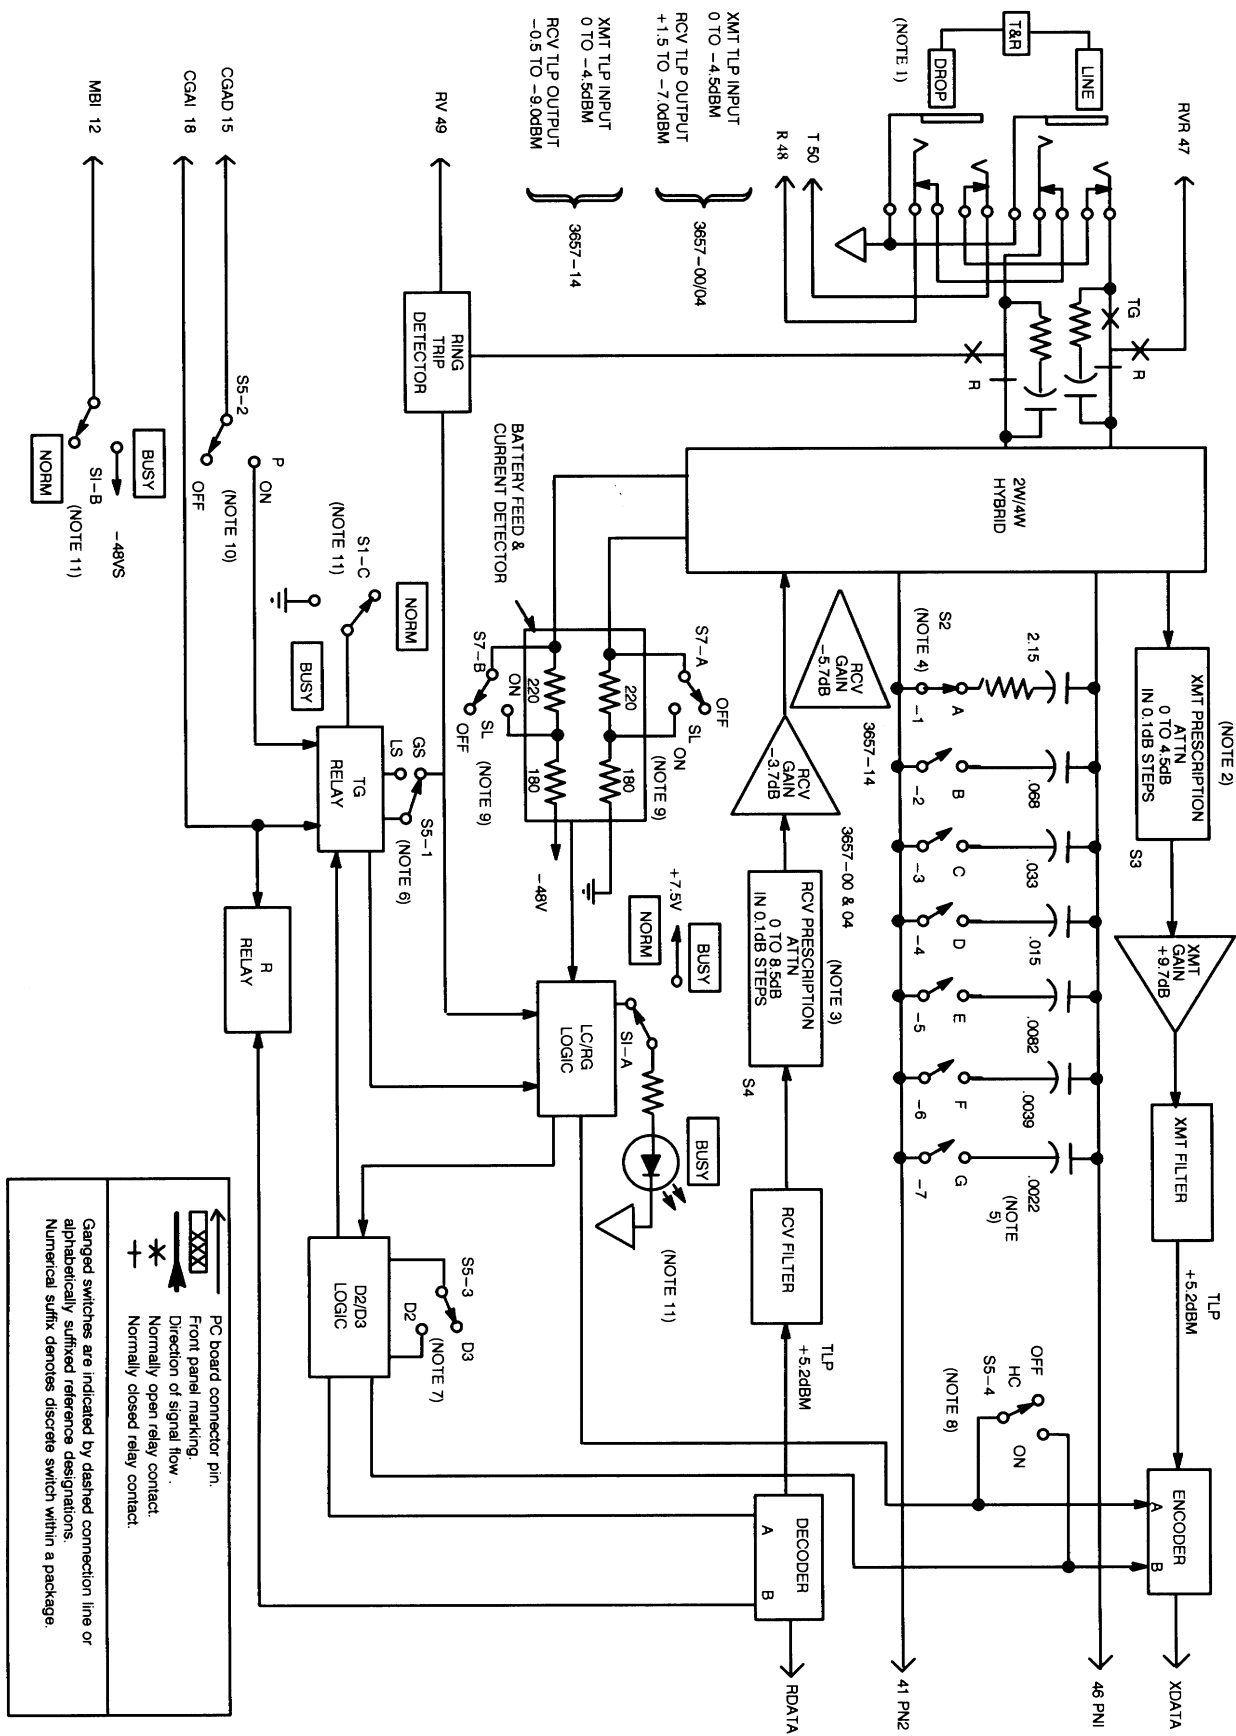
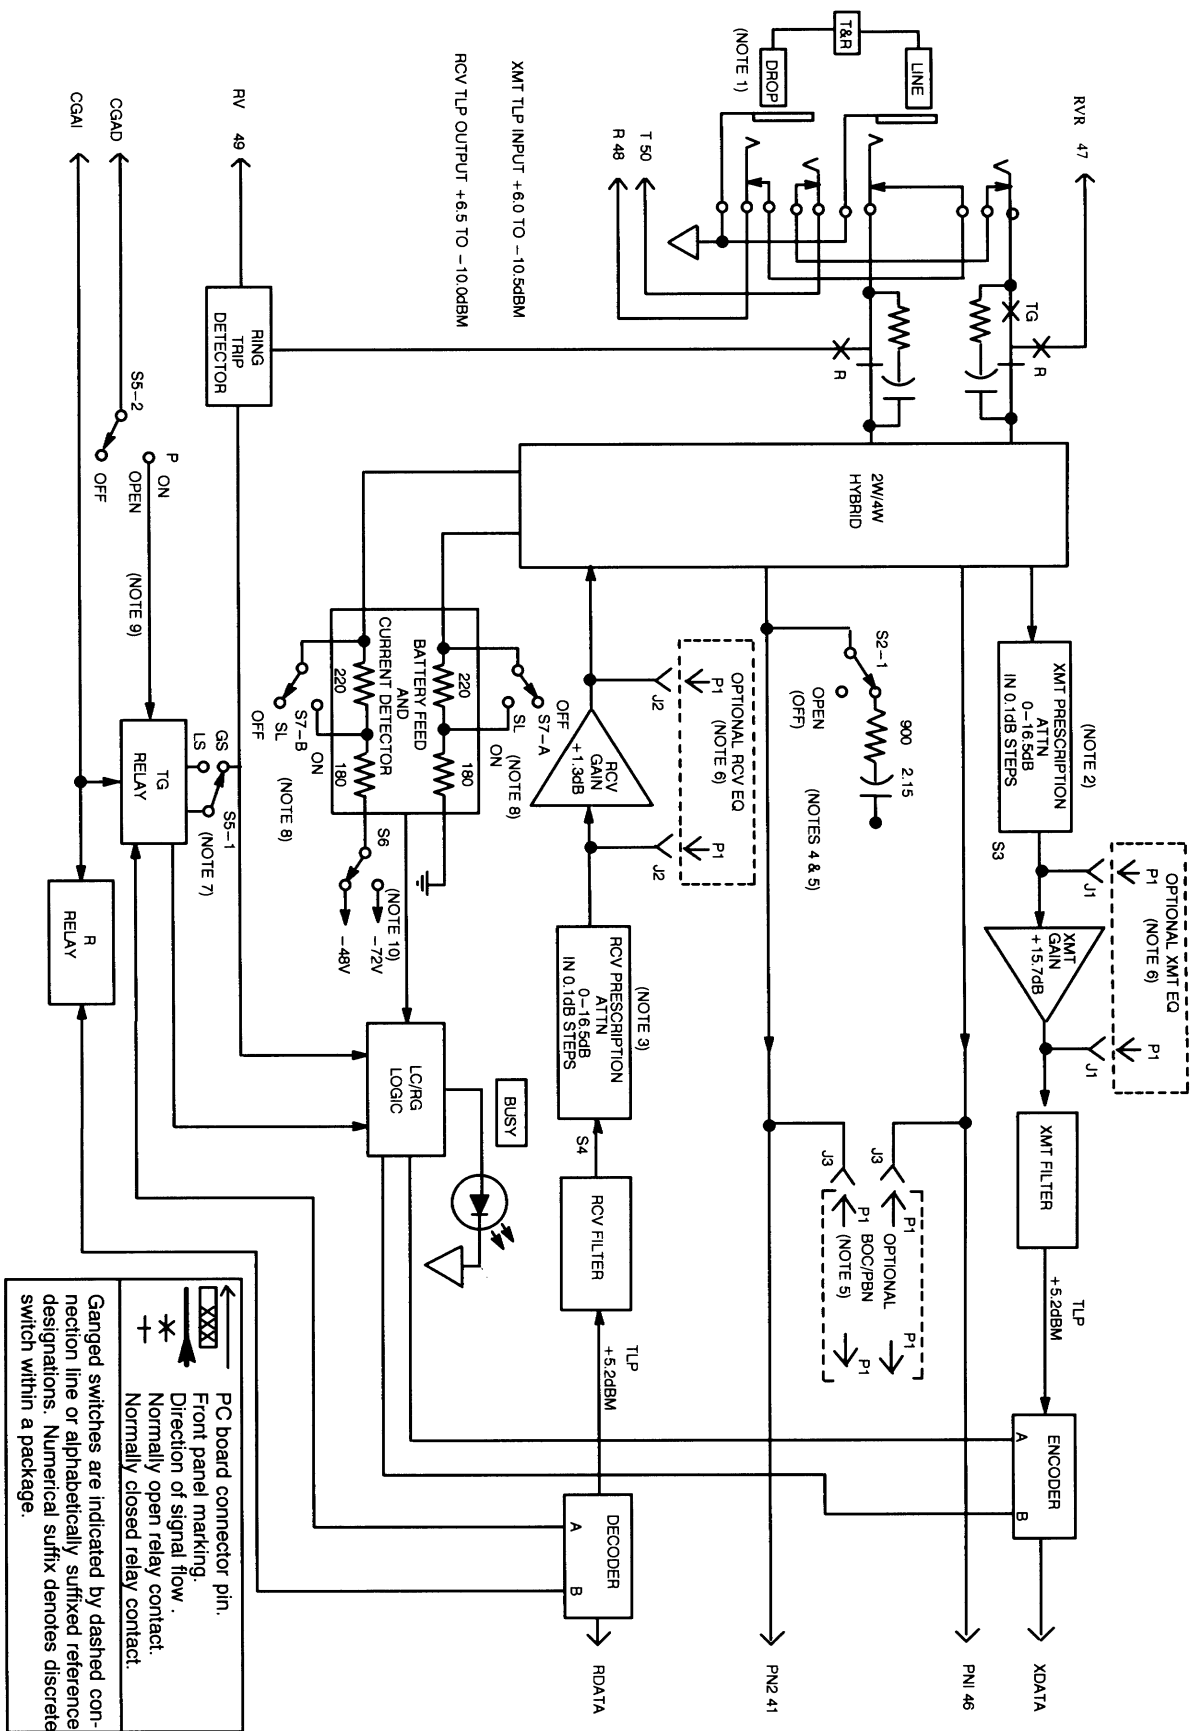

Figure 4. 3657-00/04 (Issue 8) and -14 (Issue 2) 2W FXS Channel Unit Block Diagram
Figure 5. 3657-02 FXS/GT Channel Unit (Issue 8) Block Diagram
Refer to Figure 4, the 3657–00/04 (Issue 8) and 3657–14 (Issue 2) block diagram; or Figure 5, the 3657–02 (Issue 8) block diagram, as needed while reading the following circuit description. Differences between the channel units are indicated as required.
**Table 1. Notes for Figure 4 (3657–00/04 (Issue 8) and –14 (Issue 2))**
**Table 2. Notes for Figure 5 (3657–02 FXS/GT Channel Unit, Issue 8)**